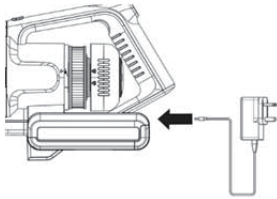

Fig. 1
2. Insert the adaptor cord into the DC jack at the end of the cleaner handle and plug the adaptor into the mains supply socket (fig.1).